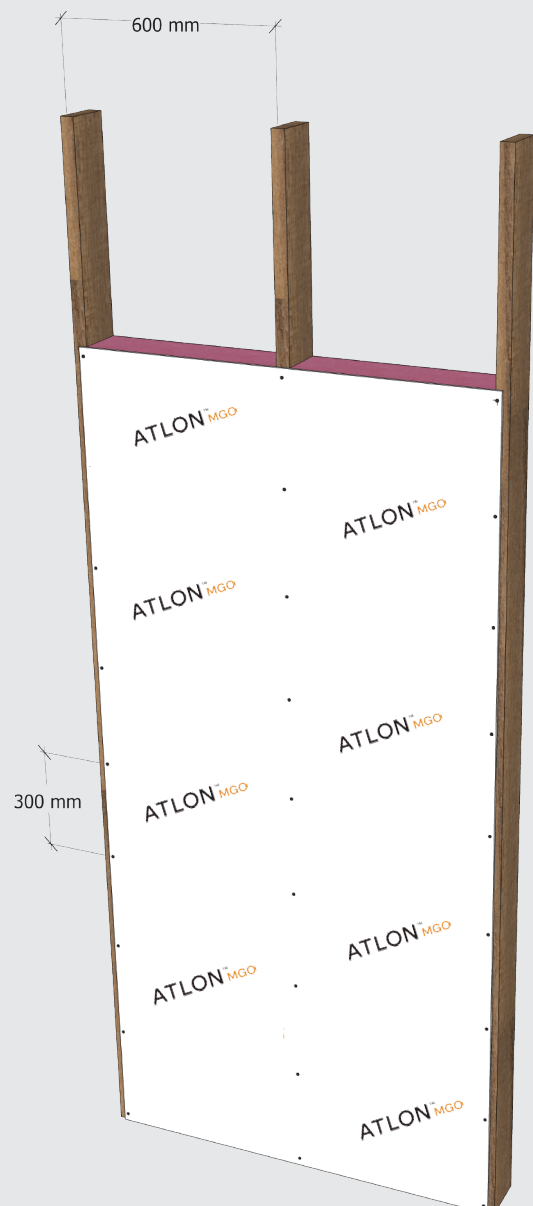

Figure 4.
- For general use a maximum of 300mm centres vertically and 600mm centres horizontal. (Figure 4)